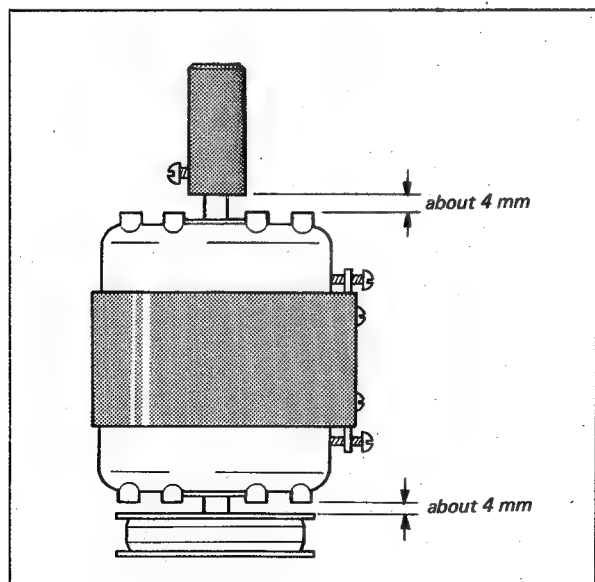

Fig. 4-23.
7. Install the top (knurled) drive pulley on the upper motor shaft. Space the bottom edge of the pulley about 4 mm from the top of the motor as shown in Fig. 4-23.